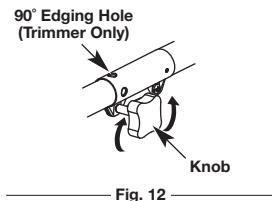

Fig. 12
1. Turn the knob counterclockwise to loosen (Fig. 12).
1. Turn knob counterclockwise to loosen (Fig. 12).
3. Turn the knob clockwise to tighten (Fig. 12).
For edging (when using the line head cutting attachment with EZ-Link™ models), lock the release button of the cutting attachment into the 90° edging hole (Fig. 12).